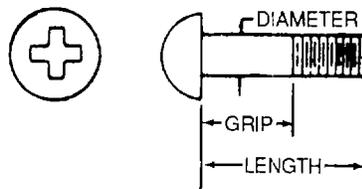

Figure 2-36. Structural Screw
- (1) Measure flat-head screws from top of head to end of thread.
- (2) Measure all other screws from bottom of end of thread as shown in figure 2-36.
(2) Brazier-head screws. The NAS220 through NAS235 brazier-head screws, as shown in figure 2-36, have the same characteristics as MS24694 flat-head screws, except for the difference in the heads. The NAS80 (100-degree) close tolerance countersunk bolt is similar to the MS24694 (100-degree) flat-head screw.